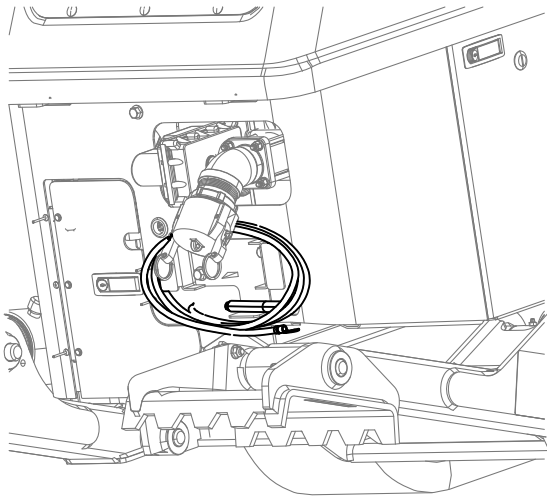

Figure 59
1. Remove the grounding stake from the holder on the side of the operator platform (Figure 59).